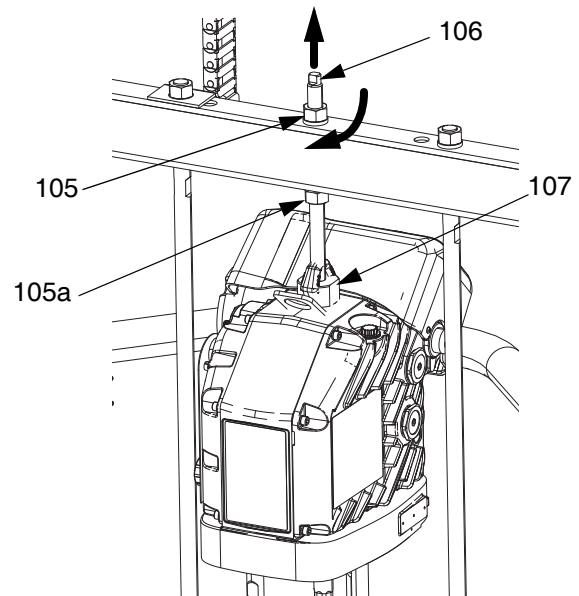

FIG. 23
- a. Use wrench on nut (105) on top of ram bar to lower driver onto displacement pump. See FIG. 23 on page 29. Thread nut (105) up and tighten it under ram bar. Tighten nut (105) below the crossbar to 25 ft-lb (34 N•m) maximum.